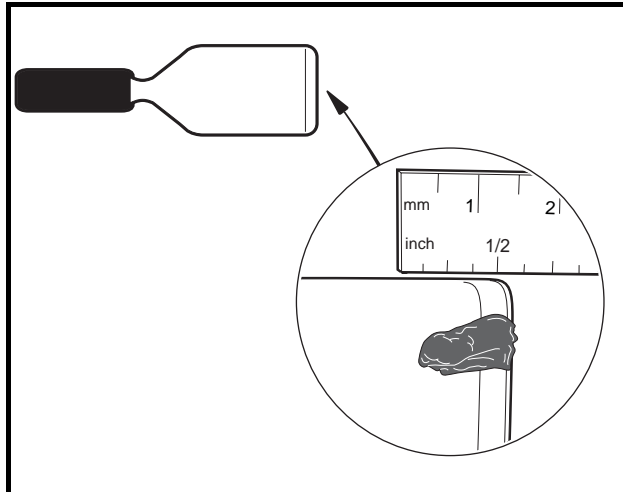

Figure 16-14 Grease on Putty Knife
- 2.1. Squeeze approximately 1/2 inch (1.3 cm) of moly-teflon lubricant (CCI P/N 102265201) from tube onto a putty knife as shown (**Figure 16-14, Page 16-13**).